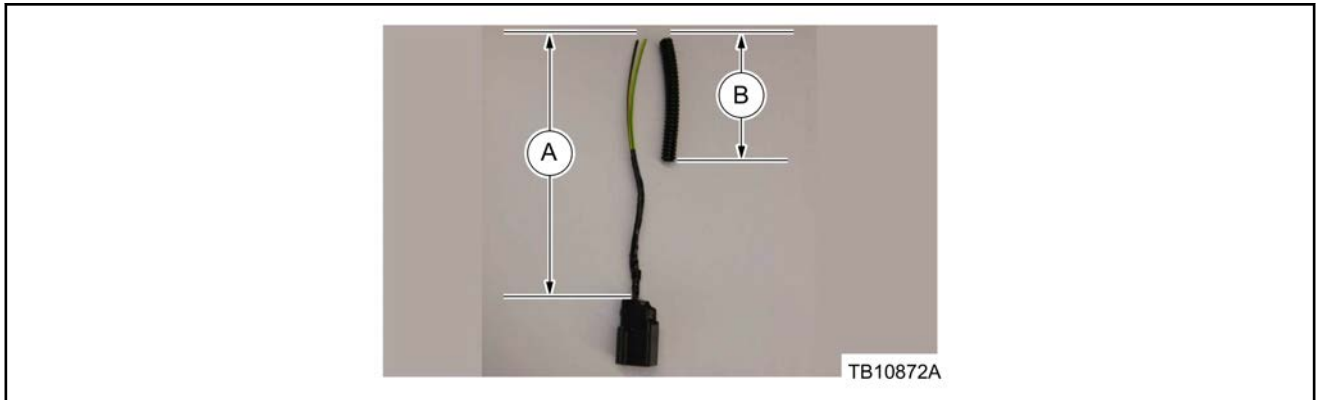

Figure 1 - Article 16-0054
- c. Use Rotunda Coroplast™ electrical wire harness tape or equivalent. Wrap 15 cm (6") length of wire of the pigtail harness. Leave enough wire from the pigtail exposed to splice it to the main harness. (Figure 1)